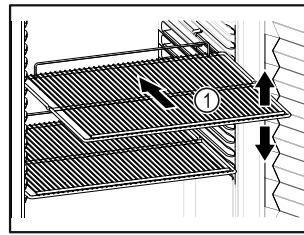

Fig. 73 Example illustration
- ❑ If storage surfaces Fig. 73 (1) are movable, adjust them according to height.